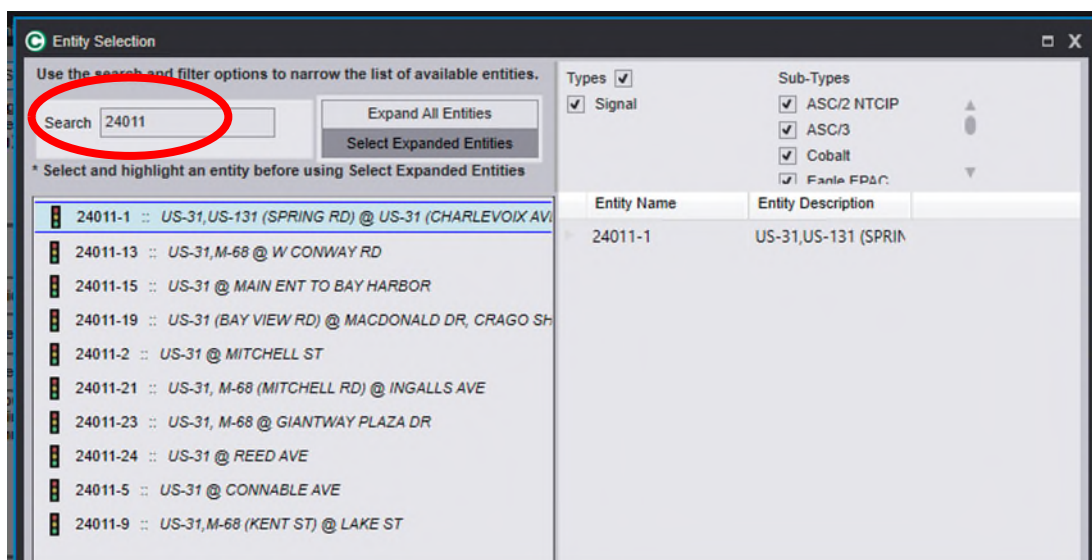

Figure 120: Selection of intersection 24011-1 through a search of CS24011.
- Click on **Select a Signal...** at the top of the interface. This brings up the Entity Selection window. Search for or navigate to the signal to be analyzed. Figure 120, below, shows an example search for CS24011, where the intersection of 24011-1 has been selected for a Split Monitor analysis. The name of the intersection can also be used here.